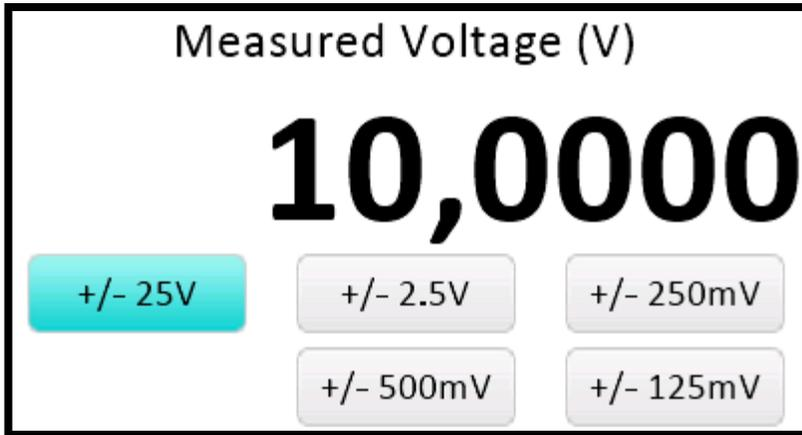

Figure 20. MAXREFDES183# PGA.
25. The Sense Measurement inputs use the on-chip programmable gain amplifier (PGA), which allows the calibrator to measure very small voltages between the SNS+ and SNS- inputs (**Figure 20**).